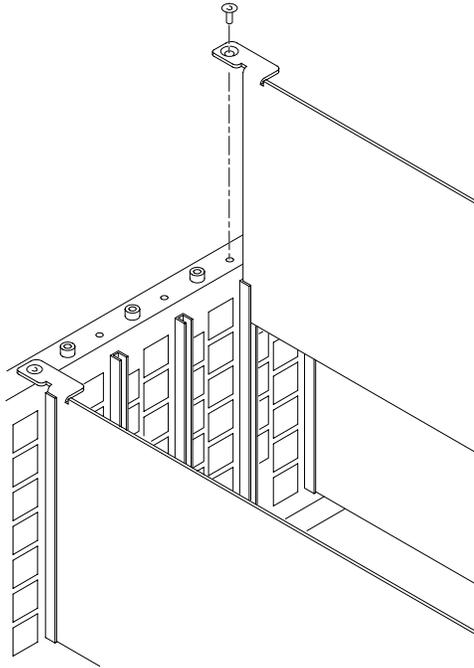

Figure C-6: Top screw
9. Insert and tighten the top screw, supplied with your module, as shown in Figure C-6.
5. Refer to Figure C-6 on page C-6 and remove the top screw.